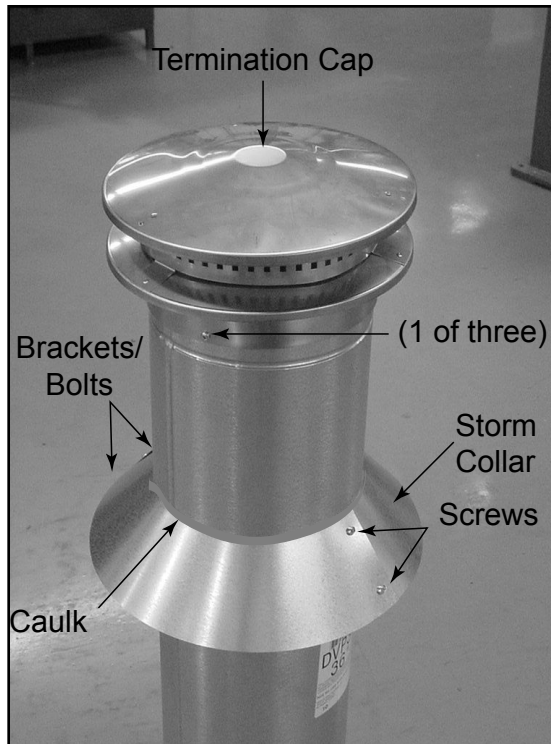

Figure 10.20
- Caulk around the top of the storm collar (see Figure 10.20).